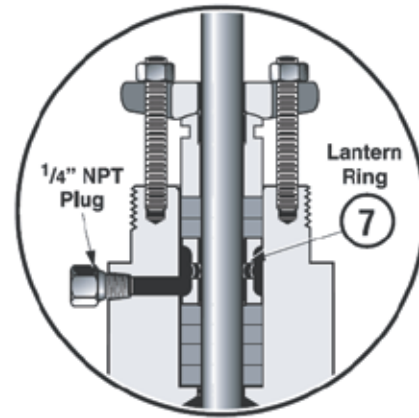

Figure 2: Lubricator Connection (Optional)
- A. Loosen and remove packing flange nuts (15).
- B. Lift the packing flange (13) and packing follower (12) up the valve stem.
- C. By means of a hooked instrument, remove packing (16) insuring not to damage the sealing surfaces of the packing box or plug stem.
**Note: On valves equipped with an optional lubricator connection, the lantern ring (17) must also be removed to gain access to lower packing rings.**
- D. Replace packing rings (16).
**Note: On valves equipped with an optional lubricator connection, refer to Figure 2 for correct amount of rings to place under the lantern ring (17).**
- E. Replace packing follower (12) and packing flange (13).
F. Replace and tighten packing stud nuts (15).
- L. If a leak detection connection was installed, connect it on the lateral NPT port in the bonnet. If not, insure that the 1/4" NPT plug remained in place (Figure 2).
L. If a leak detection connection was installed, connect it on the lateral NPT port in the bonnet. If not, insure that the 1/4" NPT plug remained in place (Figure 2).